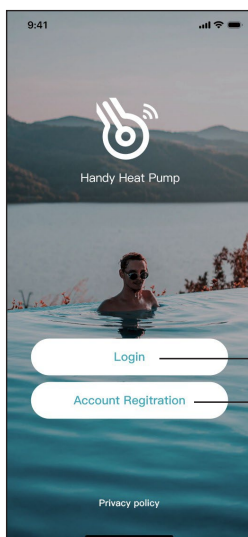
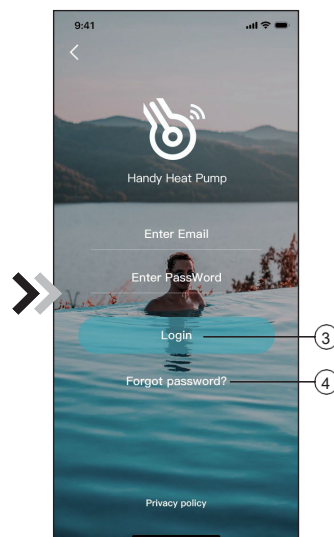
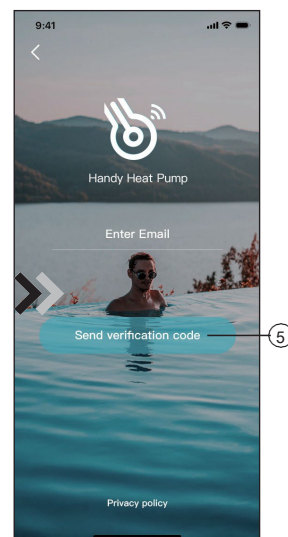

Fig.1 Home page
Fig.2 Login interface
Fig.3 Register and retrieve passwords
1. Account registration: Click (1) (Fig. 1) on the home page to jump to the account registration interface (Fig. 3).
2. Login: Click (2) (Fig. 1) on the home page to jump to the login interface (Fig.2) and follow the instructions on the page (as shown in the figure).Enter your registered email address and password, and click (3) to jump to the device list.
3. Forgot Password: When you forget your password, click (4) (Fig.2) and jump to the password forgotten interface (Fig.3). Fill in the relevant information according to the page instructions, click (5) to send the email verification code, and operate according to the page instructions.